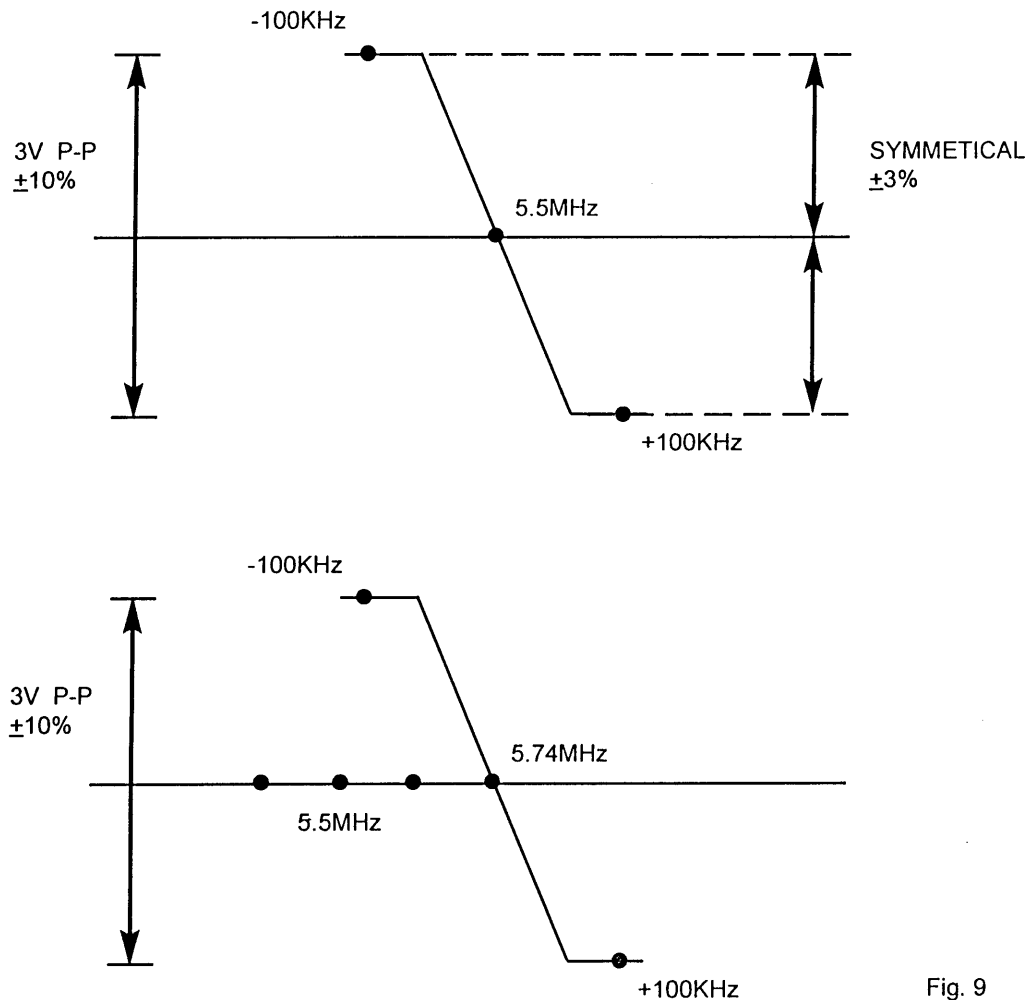

Fig. 9
5. Adjust T104 and T102 to obtain the waveform as Fig.9.